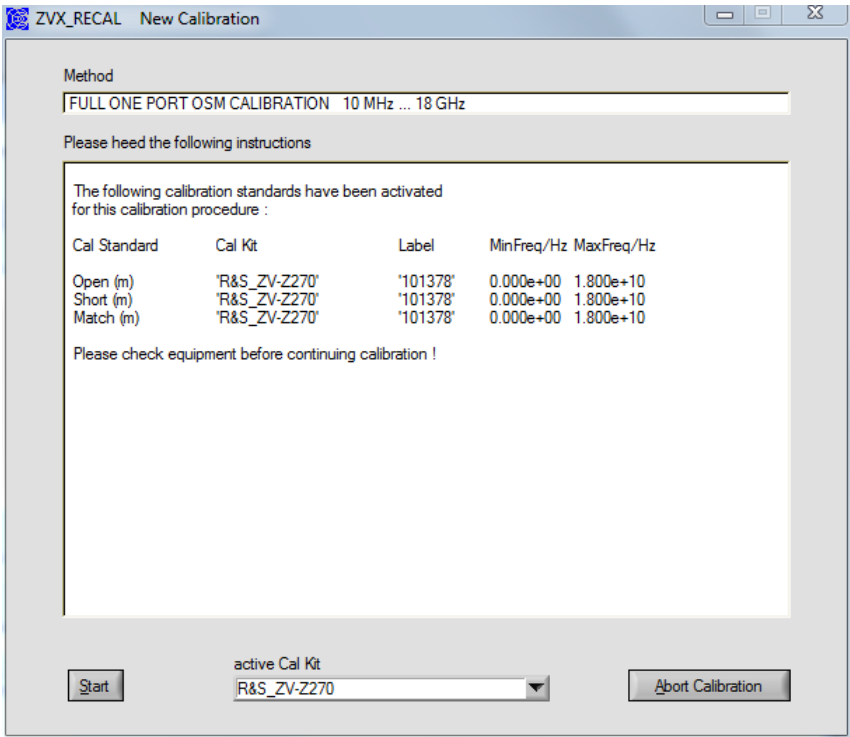

Fig. 6-4 Window for selection of the calibration kit
- Re 7: - In the **Calibration** drop-down list, select the **New: One Port OSM** entry. A window like the one shown Fig. 6-4 will open